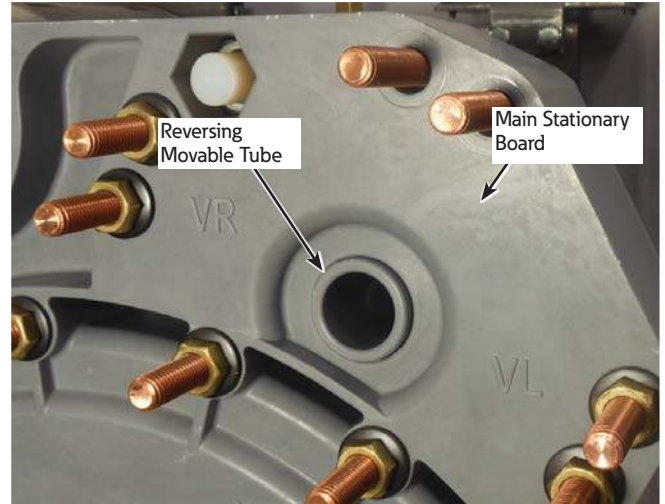

Figure 17. Aligning with main contact board
20. Slide the stationary and movable contact assembly toward the contact panel. Align the movable contact assembly so that the reversing movable tube aligns with and goes through the hole in the contact panel. At this point the stationary contact and movable contact should be fully engaged with the contact panel. See Figure 17.